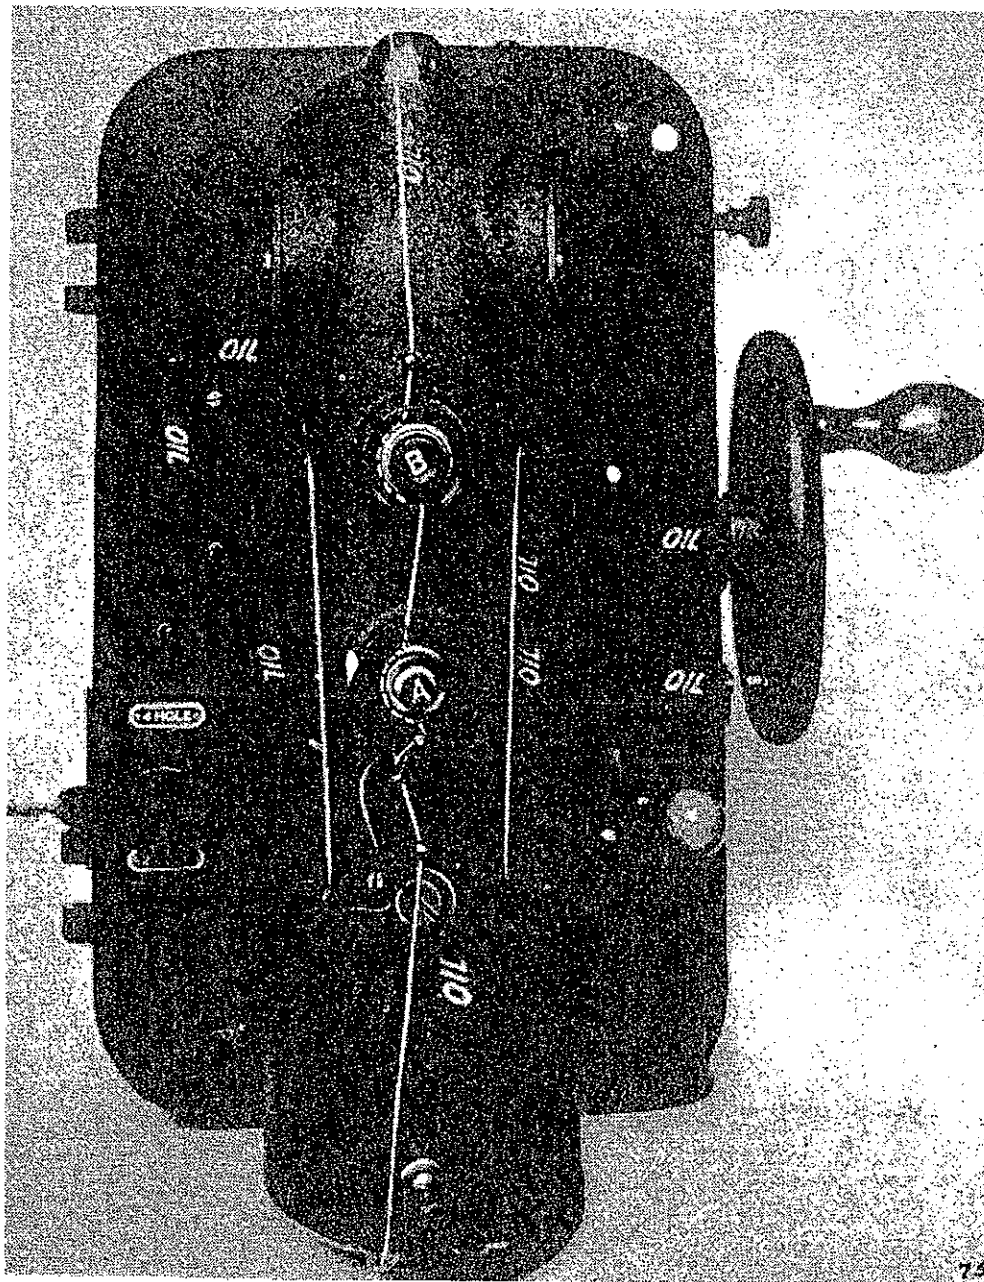
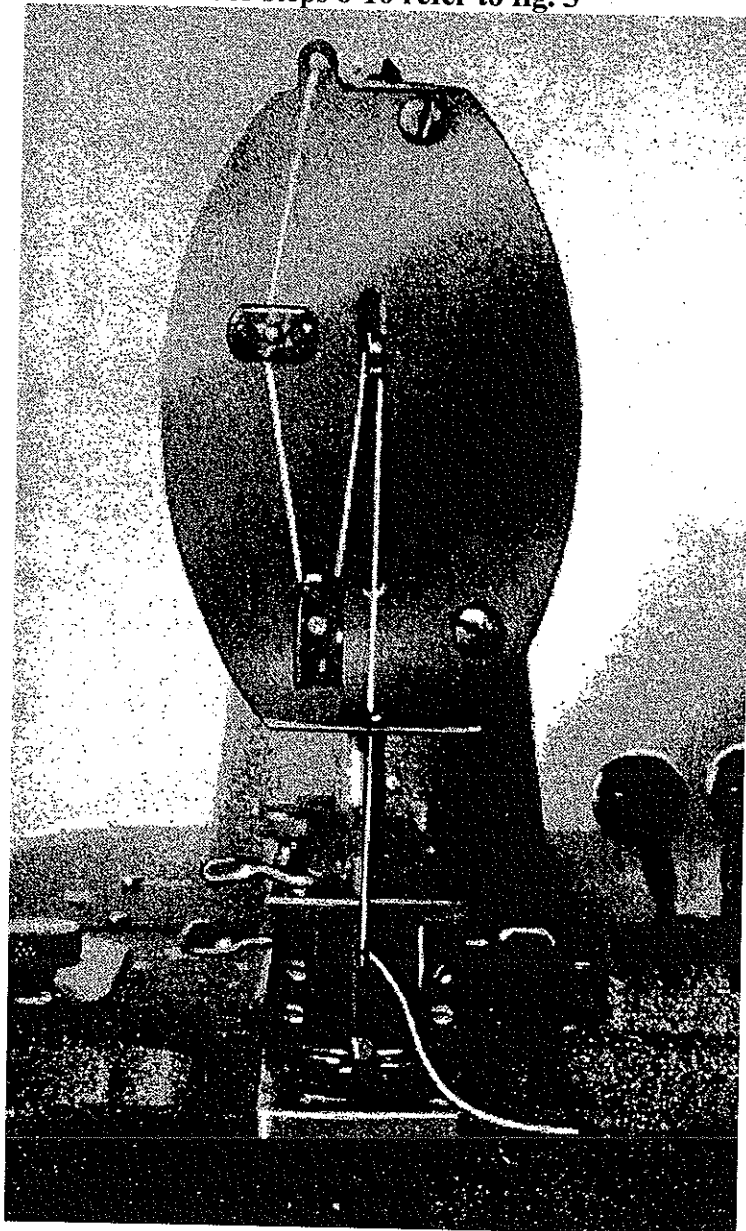

Fig. 2
Fig. 3
For steps 1 - 6 refer to fig. 2
For steps 6-10 refer to fig. 3
At the same time, the operator must see that there is at least 2 1/2" of thread projecting from the eye of the needle. **IF THERE IS NO SLACK IN THE THREAD AT THE TOP OF THE MACHINE AND NO EXTRA THREAD FROM THE EYE OF THE NEEDLE, THE LOOPER WILL NOT CATCH THE THREAD** and the machine will go through the full cycle of sewing without even making a stitch. (See Fig. 3, Page 6).
2. Check the threading of the machine to see that the thread hasn't jumped out or wound around some part. **COMPARE IT WITH ILLUSTRATIONS FIG. 2 & FIG. 3.** Make sure the thread pulls through the needle smoothly.